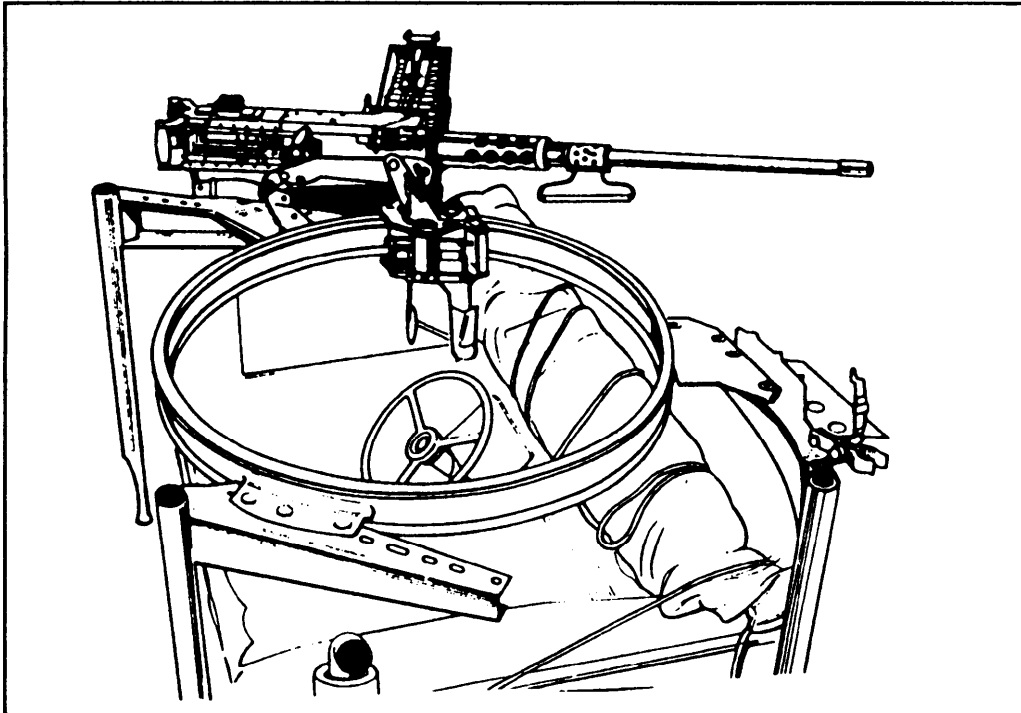
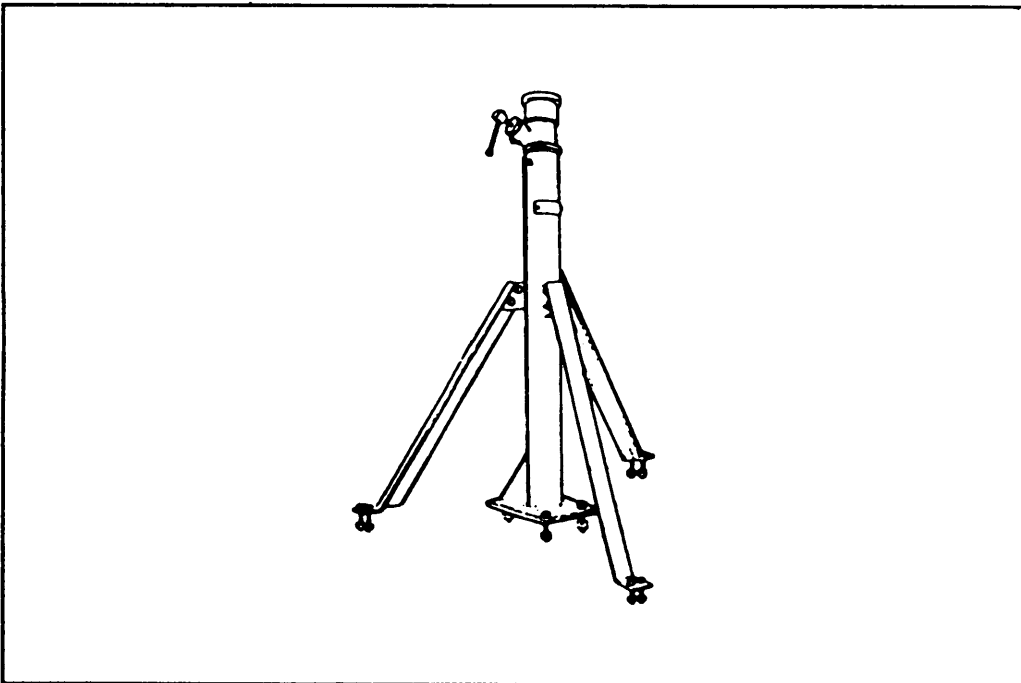

Figure 1-10. Truck mount, M36.
Figure 1-11. Pedestal truck mount, M31 C.
a. **Truck Mount, M36.** This mount consists of a cradle with a roller carriage on a circular track (Figure 1-10). The cradle can be rotated in the pintle sleeve of the carriage and can be adjusted for elevation. The carriage is guided on the track by rollers. The track is secured to the vehicle by supports.
(1) To move the gun in elevation on the M36 mount, remove the cradle locking pin and place it in the carriage handle; grasp the spade grips and elevate or depress as desired. The gun is also moved in traverse by pressure on the spade grips.
(2) To move the gun on the track, raise the brake handle lever until it is retained by the brake detent plungers. The cradle may then be moved on the track by applying pressure on the carriage handle.
b. **Pedestal Truck Mount, M31C.** Pedestal mounts are component assemblies designed for installation on the 1/4-ton vehicles to support a machine gun mount. They are composed of a pintle socket, pintle clamping screw column, and braces (Figure 1-11).